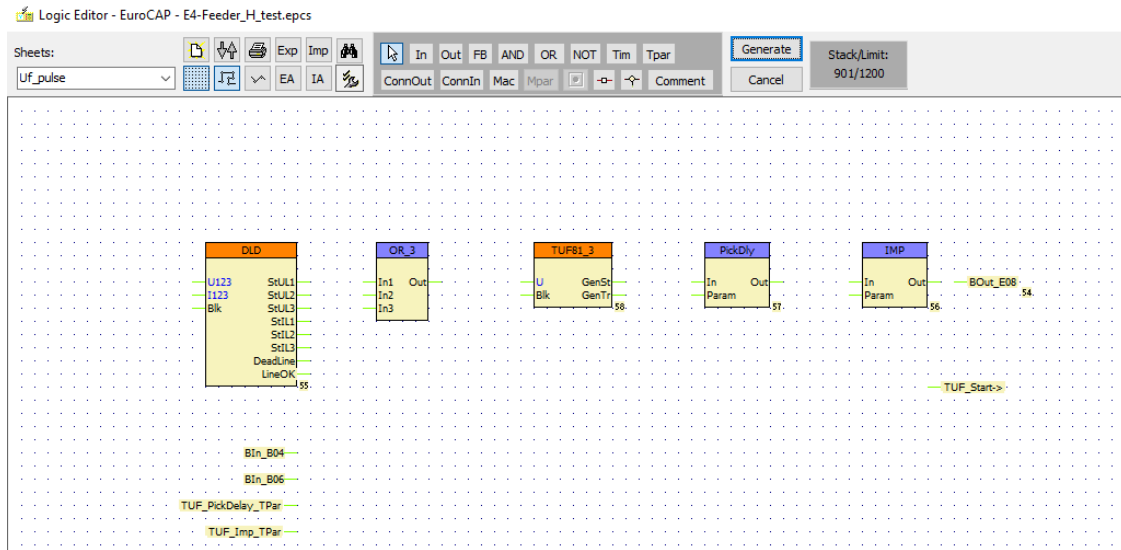

Figure 0-9 Example for placing the elements on an empty sheet
- The equation needs two binary inputs and one binary output. Select them using the **In Out** icon. The selected inputs are "BIn_B04" and "Bin_B06" found on the dropdown list, the selected output is "Bout_E08" (See Figure 0-9). It is also possible to put down more inputs or connector inputs at the same time with the use of Shift or Ctrl keys in the input selection and in the connector input selection windows.
The result of these steps is shown in Figure 0-9. Here the icon  is depressed: the grid is visible on the sheet. The location of the elements can be altered using the drag-and-drop technique.
As Figure 0-9 shows, the elements placed have green connection points. Draw a line by clicking on a green start point, clicking on the required corners and clicking on the green end point. A finished line and corners can be rearranged using the drag-and-drop technique. (The line can also be deleted.)